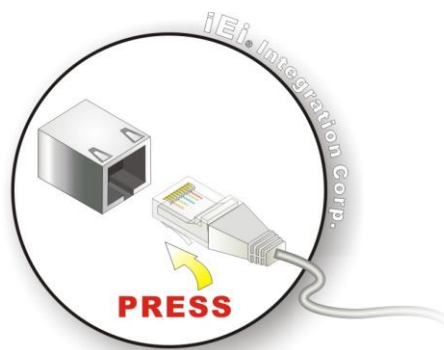

Figure 5-15: LAN Connection
Step 5: **Align the connectors.** Align the RJ-45 connector on the LAN cable with one of the RJ-45 connectors on the TANGO-3010 Series. (See Figure 5-15).